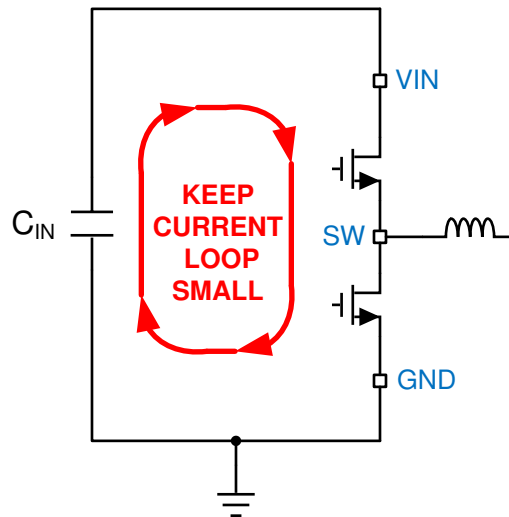
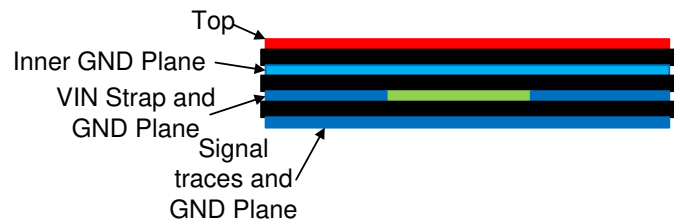

图 51. Current Loops with Fast Edges
图 53. Example Layout for VQFN Package
The PCB layout of any DC/DC converter is critical to the optimal performance of the design. Bad PCB layout can disrupt the operation of an otherwise good schematic design. Even if the converter regulates correctly, bad PCB layout can mean the difference between a robust design and one that cannot be mass produced. Furthermore, the EMI performance of the regulator is dependent on the PCB layout, to a great extent. In a buck converter the most critical PCB feature is the loop formed by the input capacitor(s) and power ground, as shown in Figure 51. This loop carries large transient currents that can cause large transient voltages when reacting with the trace inductance. These unwanted transient voltages will disrupt the proper operation of the converter. Because of this, the traces in this loop should be wide and short, and the loop area as small as possible to reduce the parasitic inductance. Figure 52 and Figure 53 show recommended layouts for the critical components of the LMR33630.
1. **Place the input capacitor(s) as close as possible to the VIN and GND terminals.** VIN and GND pins are adjacent, simplifying the input capacitor placement. With the VQFN package there are two VIN/PGND pairs on either side of the package. This provides for a symmetrical layout and helps to minimize switching noise and EMI generation. A wide VIN plane should be used on a lower layer to connect both of the VIN pairs together to the input supply; see Figure 53.